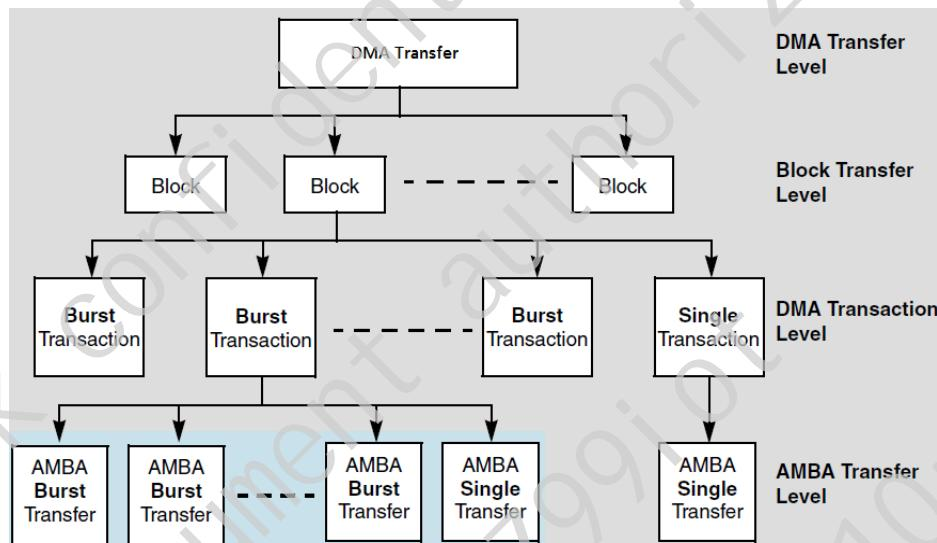
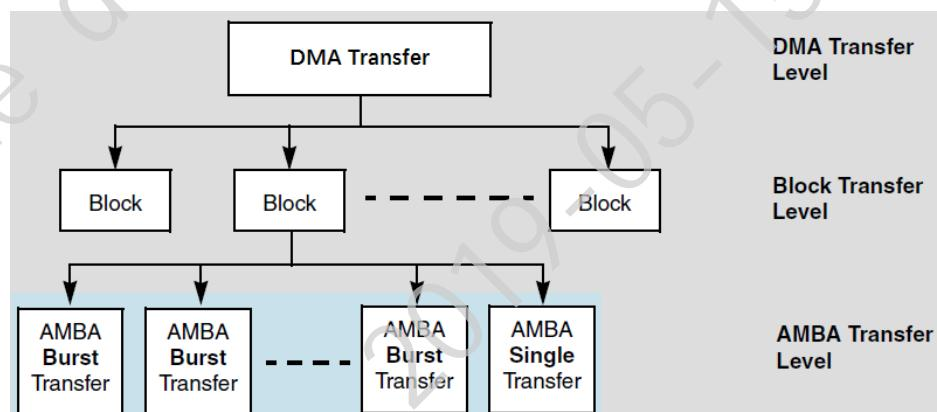

Fig 9-4 DMA Transfer Hierarchy for Non-Memory Peripherals
Fig 9-5 DMA transfer hierarchy for memory
- **Transfer hierarchy** – Fig 9-4 illustrates the hierarchy between DMA transfers, block transfers, transactions (single or burst), and AMB transfers (single or burst) for non-memory peripherals. Fig 9-5 shows the transfer hierarchy for memory.